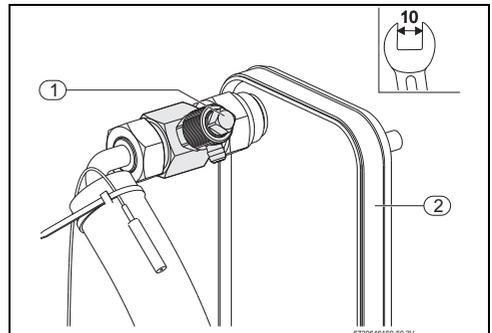

Fig. 16 Purge valve
- ▶ Rotate the gray head (Fig. 16, [3]) of the purge valve clockwise (tightening) to adjust it.
- ▶ With the cold water inlet open and the hot water taps closed, open the purge valve (at least one complete rotation, Fig. 16 [1]) until water drops out through the purge valve outlet.
- ▶ Open purge valve (at least one complete rotation, Fig. 16, [1]) until water drops out through the purge valve outlet. Ensure that water drains correctly.